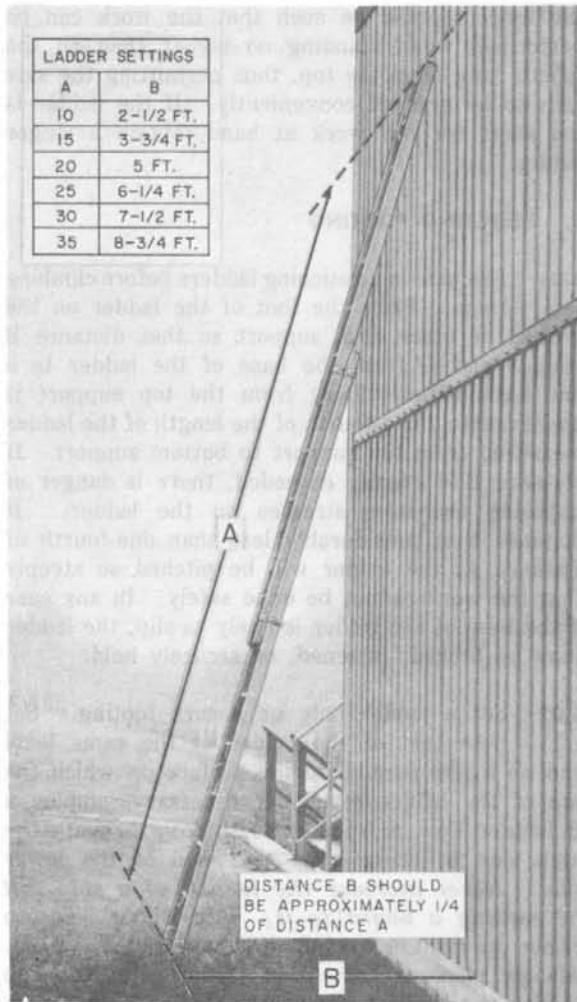

Fig. 3—Ladder Placed Against Wall
5.01 Use care in positioning ladders before climbing them. Place the foot of the ladder on the ground or other firm support so that distance B (Fig. 3 and 4) from the base of the ladder to a line extended vertically from the top support is approximately one-fourth of the length of the ladder measured from top support to bottom support. If distance B is greatly exceeded, there is danger of imposing excessive stresses on the ladder. If distance B is considerably less than one-fourth of distance A, the ladder will be pitched so steeply that the work cannot be done safely. In any case if the base of the ladder is likely to slip, the ladder shall be braced, fastened, or securely held.